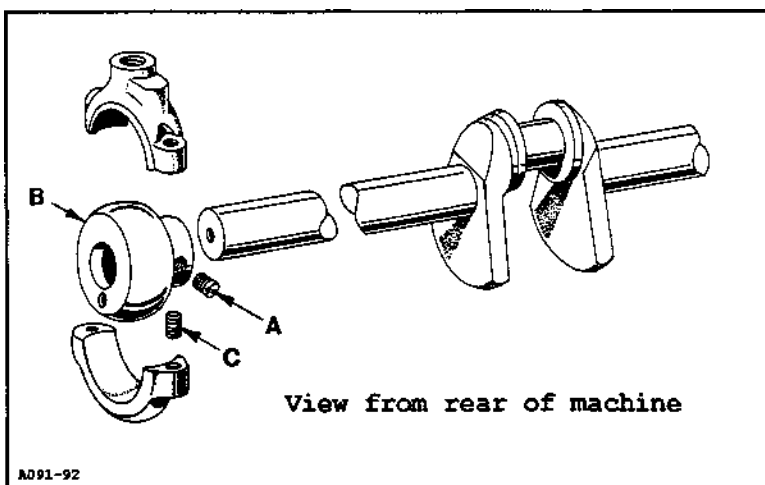

Fig. 16
Remove the crank chamber cover and rotate the handwheel in operating direction until the needles are at the top of their stroke. At this time screw (A, Fig. 16) on puller drive eccentric (B) should be facing the 3 o'clock position (toward the rear) and screw (C) should be facing the 6 o'clock position (straight down). If adjustment is necessary, turn the handwheel in operating direction until screw (C) is accessible